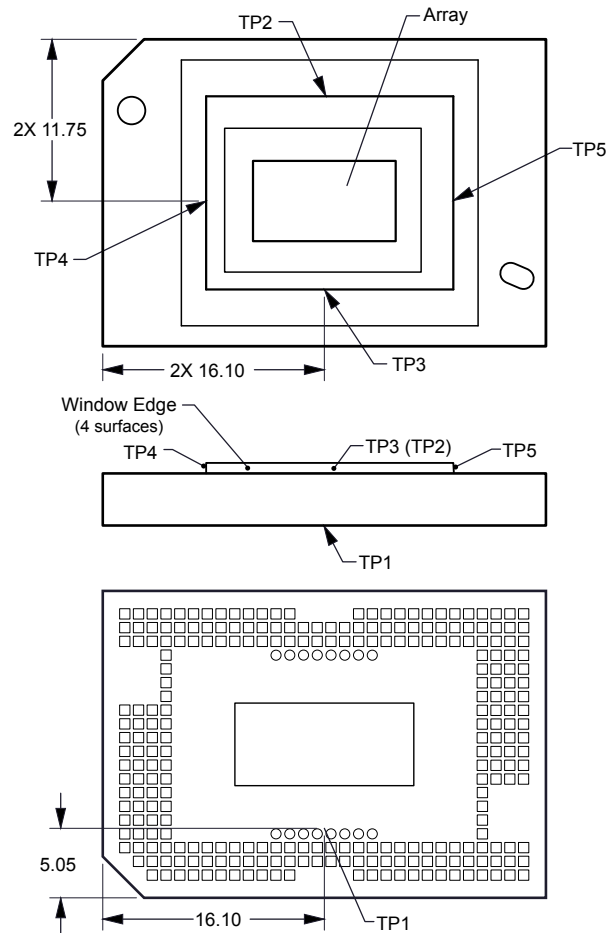

Figure 6-2. DMD Thermal Test Points
Micromirror array temperature cannot be measured directly, therefore it must be computed analytically from measurement points on the outside of the package, the package thermal resistance, the electrical power, and the illumination heat load. The following equations show the relationship between array temperature and the reference ceramic temperature, thermal test TP1 Figure 6-2 shown above:
- T_{CERAMIC} = Measured ceramic temperature ($^{\circ}\text{C}$), TP1 Figure 6-2
- $R_{\text{ARRAY-TO-CERAMIC}}$ = Thermal resistance of package specified in Section 5.5 from array to ceramic TP1 Figure 6-2 ($^{\circ}\text{C}/\text{W}$).
- Q_{ARRAY} = Total DMD Power (electrical + absorbed) on the array (W)
- $Q_{\text{ELECTRICAL}}$ = Nominal electrical power (W)
- Q_{INCIDENT} = Incident illumination optical power (W)
- $Q_{\text{ILLUMINATION}}$ = (DMD average thermal absorptivity \times Q_{INCIDENT}) (W)